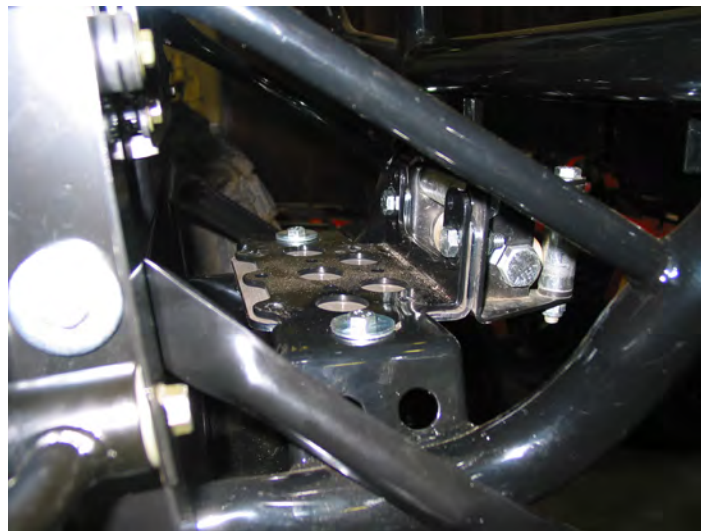

Figure 18
14. The winch fairlead support plate that was earlier attached can now be finished being installed. Take the fairlead roller and attach to the front of the winch mount and bracket using the last two remaining M10 x 30mm long Bolts. Do not tighten. See figure 18.